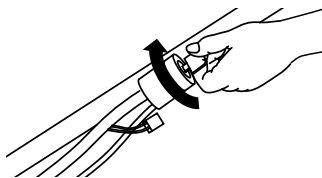
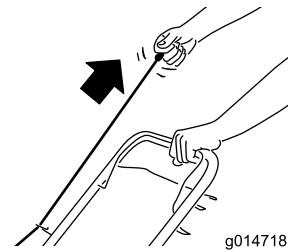

Figure 15
Figure 16
2. Turn the ignition key (electric-start models only; refer to Figure 15) or pull the recoil-start handle (Figure 16).